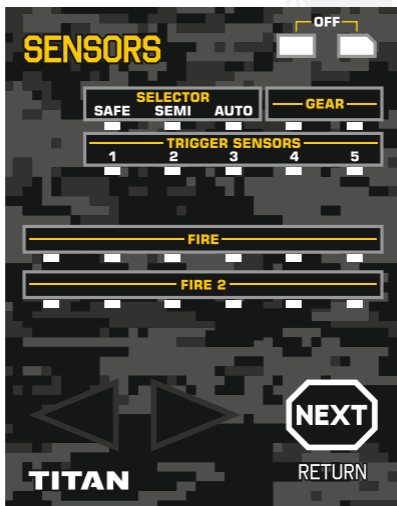

Fig.4
2. TITAN SENSORS are displayed on corresponding LEDs in real time (Fig.4).